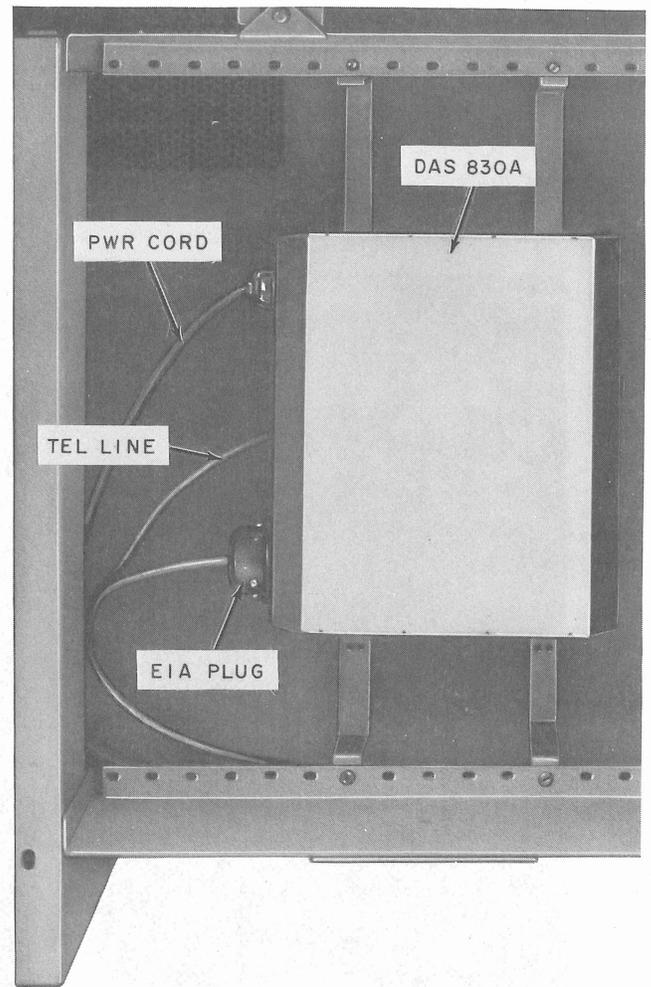

Fig. 3—DAS 830A Mounted in a Model 35 TTY
2.04 DAS 830A is located in the kneewell of a M35 TTY (Fig. 3). Access to DAS 830A is obtained as follows: